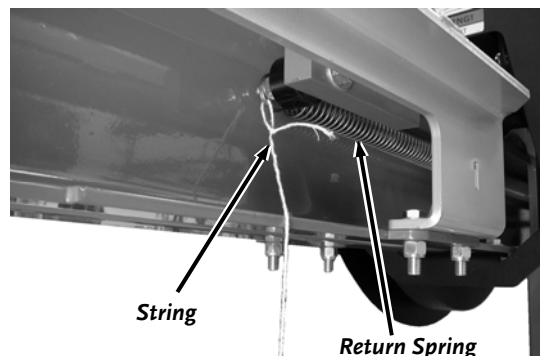

Figure 19
1. Tie a String on the end loop of the return Spring and carefully (due to spring tension) remove the Spring from the Bolt threads and hold the string as you let it retract back under the Belt Guard (**Figure 19**). Repeat for the Spring on the other side of the Frame.
- Remove the Return Springs as described in step 1 of “Greasing The Rack and Pinion” on page 13 (**Figure 19**).
1. Remove the Return Springs as described in step 1 of “Greasing The Rack and Pinion” on page 13 (**Figure 19**).